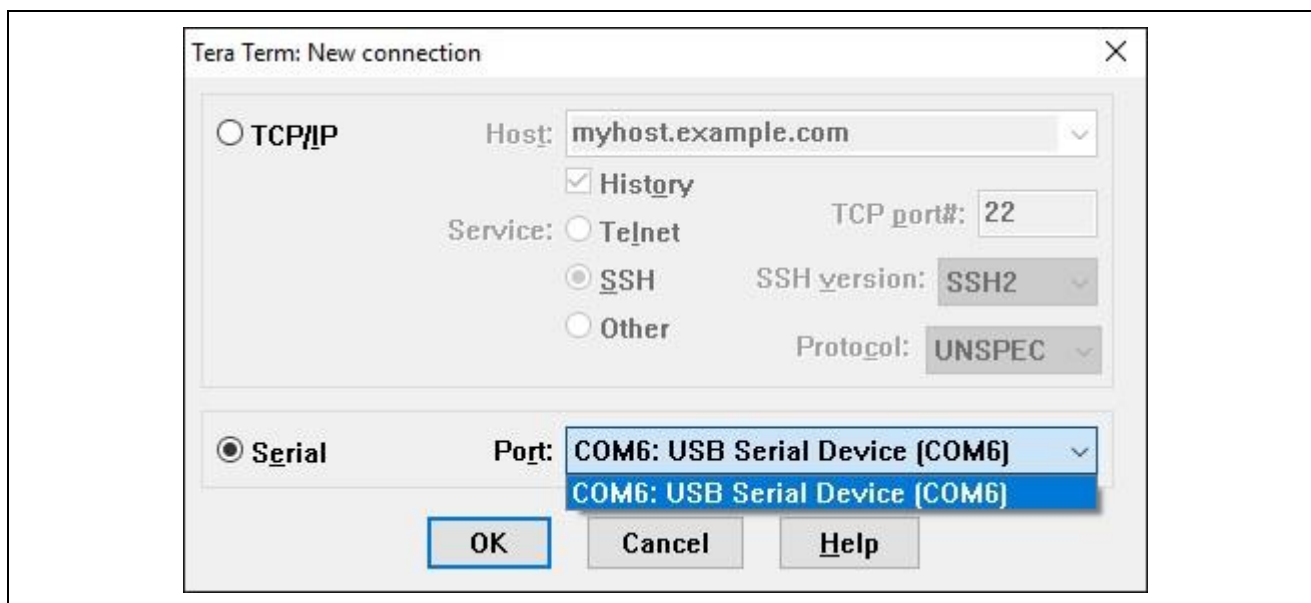
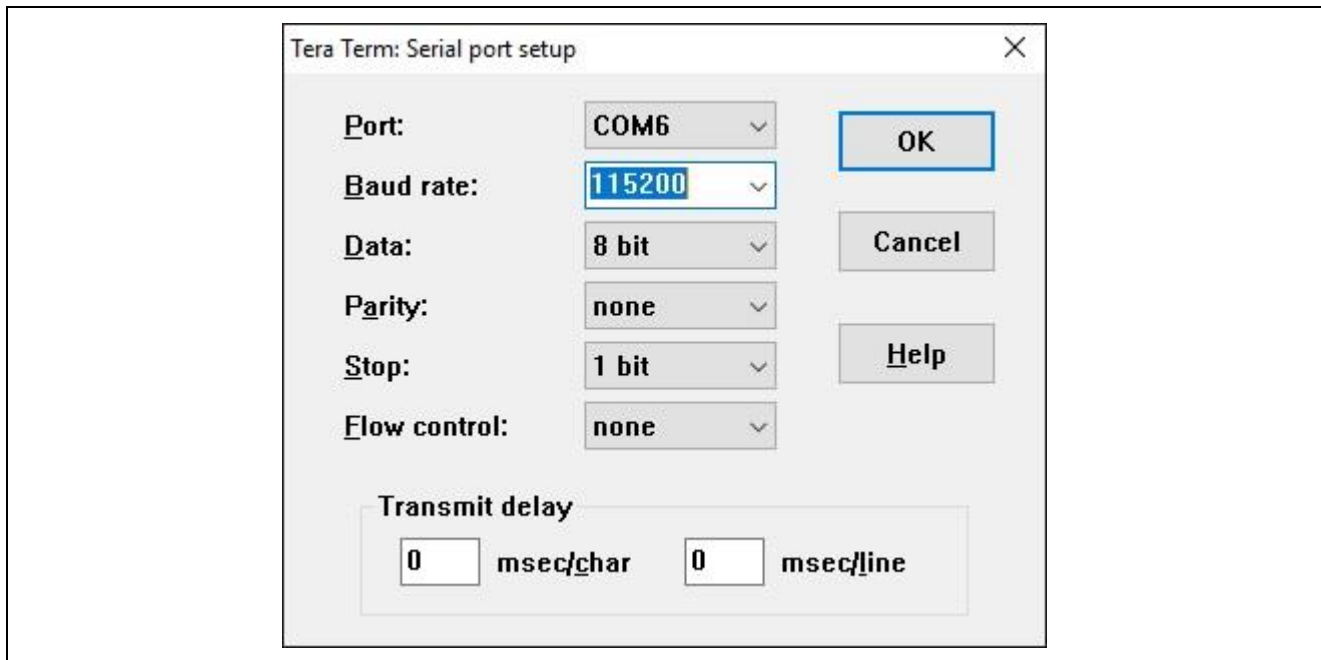

Figure 3-3 Create a Serial Connection
Figure 3-4 Serial Port Setup
2. Set up your terminal program (Figure 3-3 and Figure 3-4).